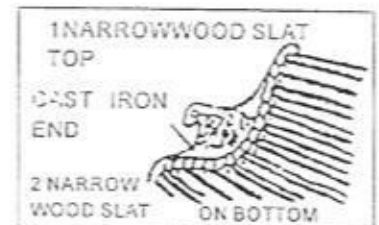

fig. 1
1. Assemble the slats (B & C) to the cast iron ends (A) using the bolts (D) with the nuts (E) do not fully tighten the bolts at this stage. Ensure that two of the narrow slats are at the front edge of the seat and the is other at the top of the back rest. (Fig 1)